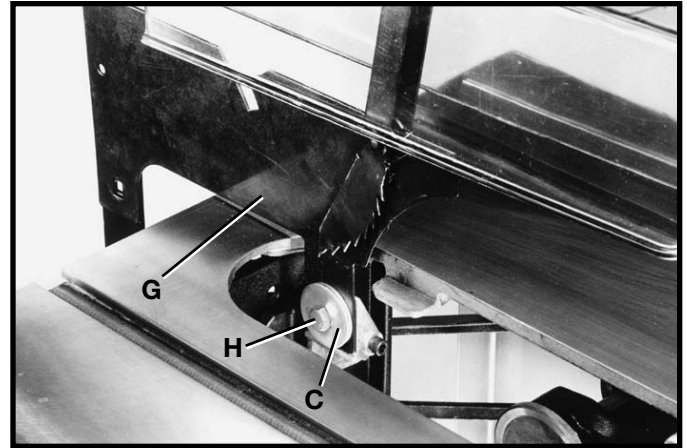

Fig. 32
7. Assemble the blade guard and splitter assembly (G) Fig. 32 between the large washer (C) and the splitter bracket and tighten screw (H) with wrench supplied.